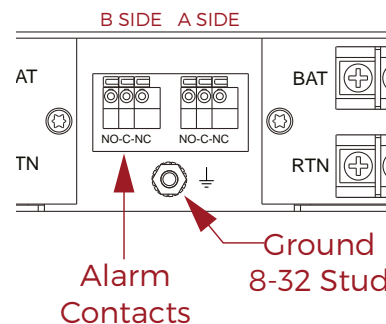

Figure 12. Alarm Contact & Ground Detail
9.5 Form C Relay Contact Outputs. The center of the back panel has connections to the Form C relay contact outputs for connection to external audible or visual alarm circuits. See Figure 12.